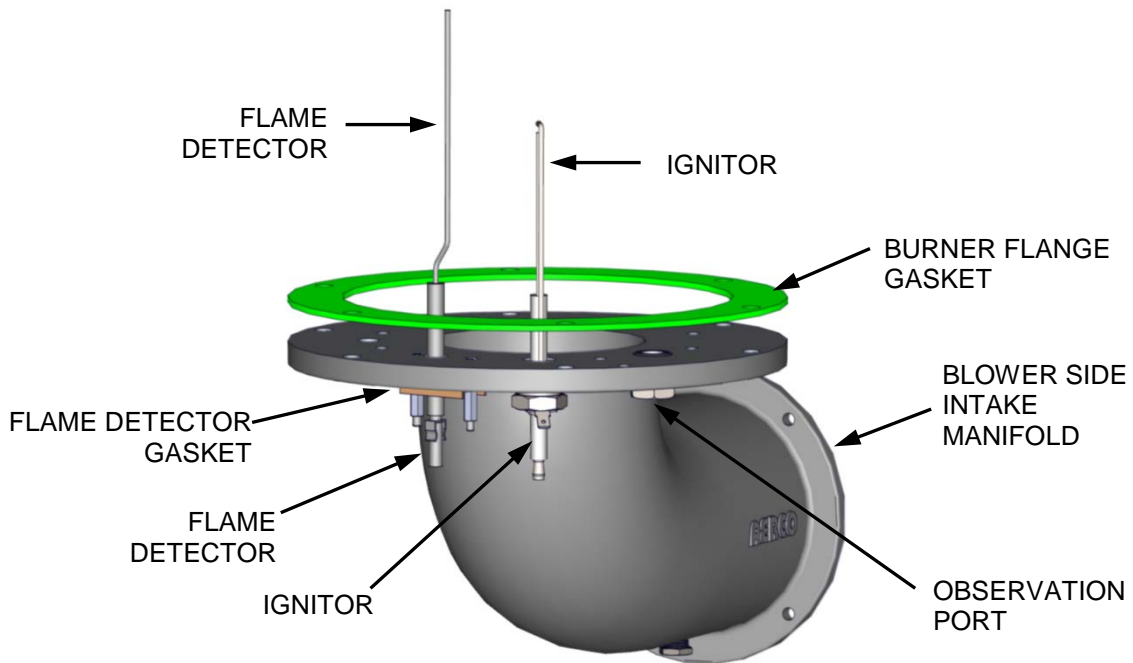

Figure 6-1. Blower-Side intake Manifold With Igniter & Flame Detector
The igniter is located on the flange of the blower-side intake manifold located at the bottom of the unit's heat exchanger. The igniter part number (66023) is the same for Natural Gas and Propane units. Figure 6-1 shows the blower-side intake manifold removed from the heater and indicates the locations of the igniter, flame detector and other related components.
Flame detector (part no. 66018) is used on ALL Innovation Water Heater Models. The flame detector is also located on the flange of the blower-side intake manifold as shown in Figures 6-1 and 6-2. The flame detector may be hot. Allow the unit to cool sufficiently before removing the flame detector.
4. Remove the two (2) hex standoffs securing the flame detector to the intake manifold (Figures 6-1 and 6-2). The flame detector is secured to the burner intake manifold with one (1) #10-32 and one (1) #8-32 hex standoff.
5. Remove the two (2) hex standoffs securing the flame detector to the intake manifold (Figures 6-1 and 6-2). The flame detector is secured to the burner intake manifold with one (1) #10-32 and one (1) #8-32 hex standoff.